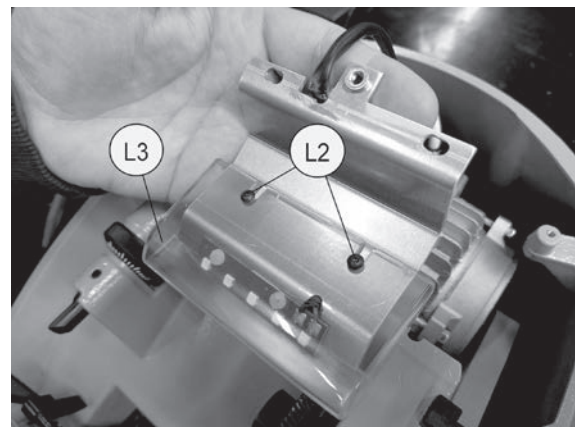

Fig. 42
- 4) Loosen the 2 screws (L2) in order to remove the lamp protection (L3) (Fig. 42).